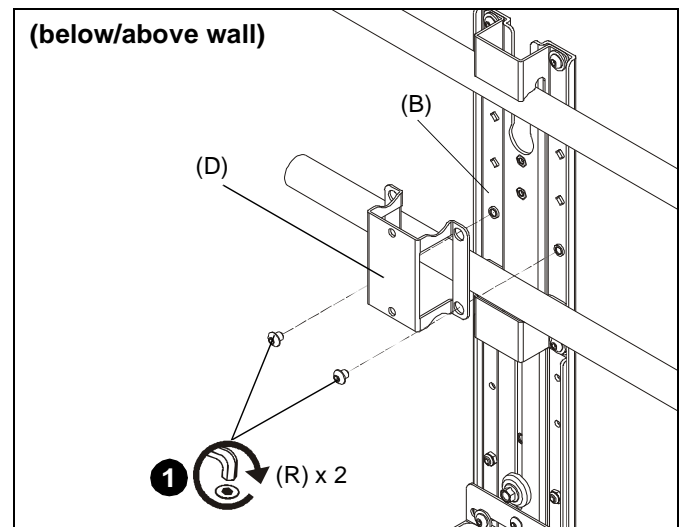

Figure 33
1. Use two 1/4-20 x 1/4" button head cap screws (R) to secure extender box holder (D) to main bracket (B) at the correct location depending on configuration.
- To wall, in between mounting rails. (See Figure 33)